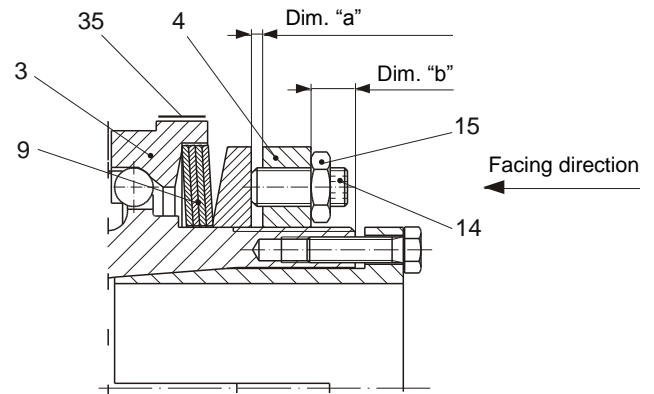

Fig. 11
The clutch is set to the torque stipulated in the order. Adjustment is carried out via dimension "a" by turning the set screws (14) (Fig. 11).
Turning the set screws (14) clockwise causes a reduction in torque. Turning them anti-clockwise causes an increase in torque. You should be facing the adjusting nut (4) as shown in Fig. 11.
Changing the Torque (Fig. 11)
The inspection dimension "a" (see Table 3) can show deviations due to construction tolerances or to clutch wear. After de-installing the clutch (e.g. due to cup spring replacement or changes to the cup spring layering), the clutch must be re-adjusted and calibrated using dimension "a" and dimension "b" (see Adjustment Table (35) Fig. 12, Table 3 and Fig. 11).